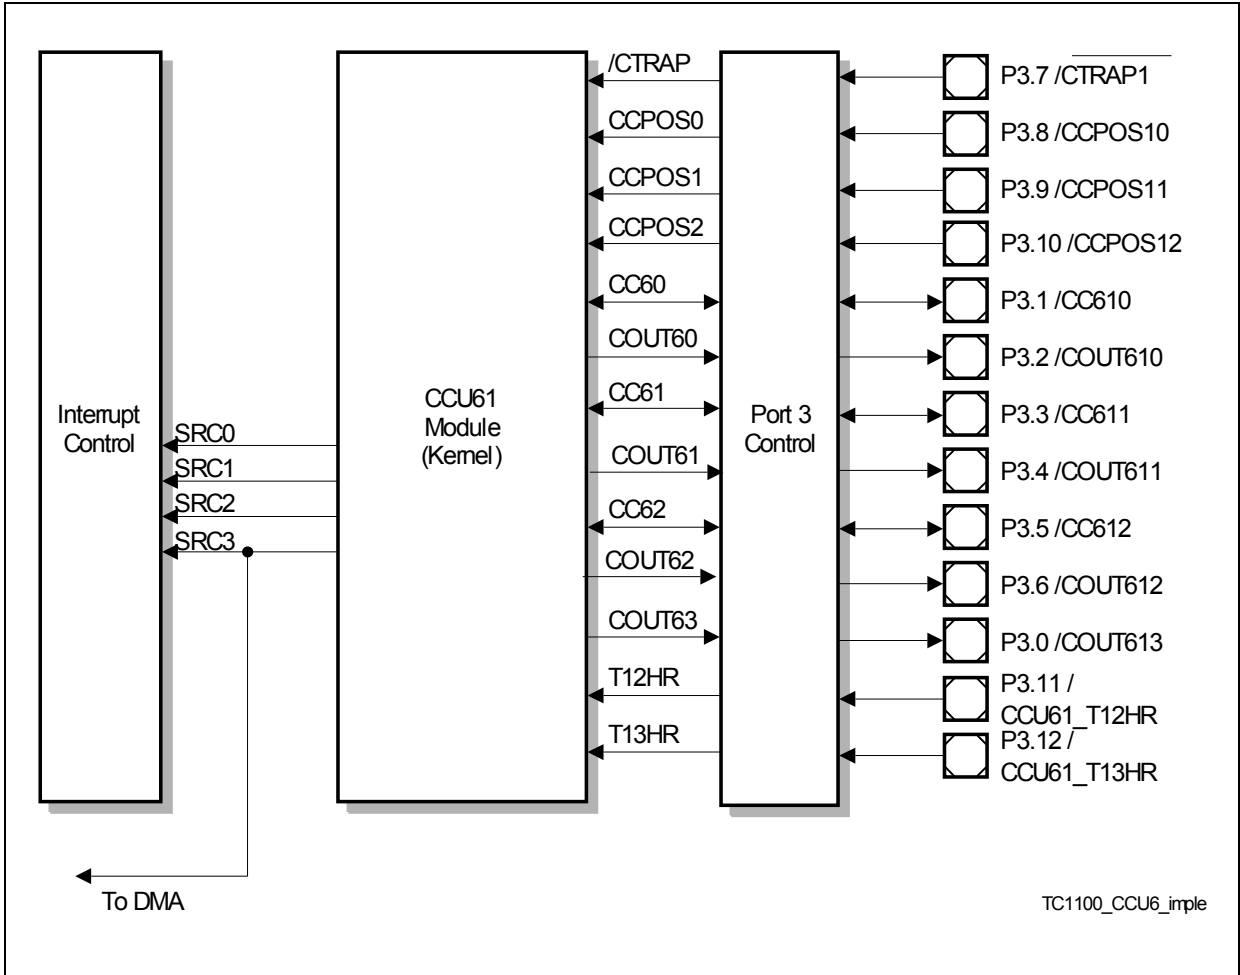

Figure 3-10 General Block Diagram of the CCU6 Interface
**Figure 3-10** shows a global view of the functional blocks of the Capture/Compare Unit (CCU6).